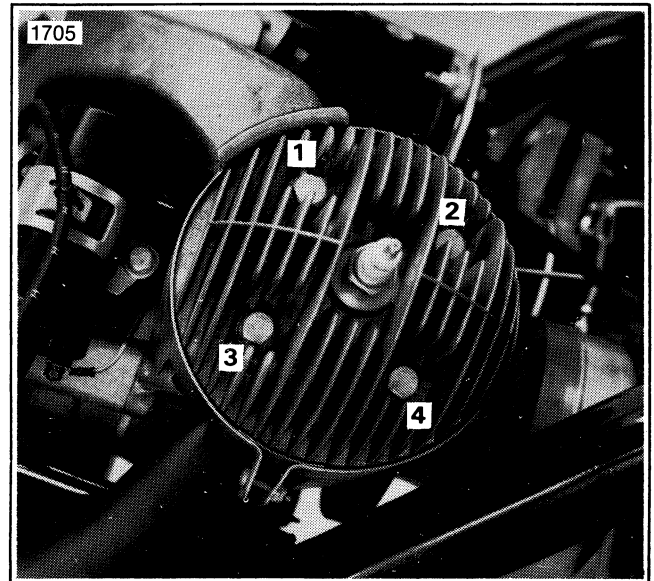

Figure 5-14. Head Bolt Torque Sequence
7. Clean the cylinder and cylinder head mating surfaces. Apply a very thin coat of Loctite® Stainless Steel Pipe Sealant with Teflon, to head surface with fingertip and install the cylinder head and bolts. See SPECIFICATIONS at the beginning of the section for cylinder head bolt torque. Position head with fins vertical. See Figure 5-14 for cylinder head bolt torque sequence. Tighten diagonally, 10 ft-lbs at a time.